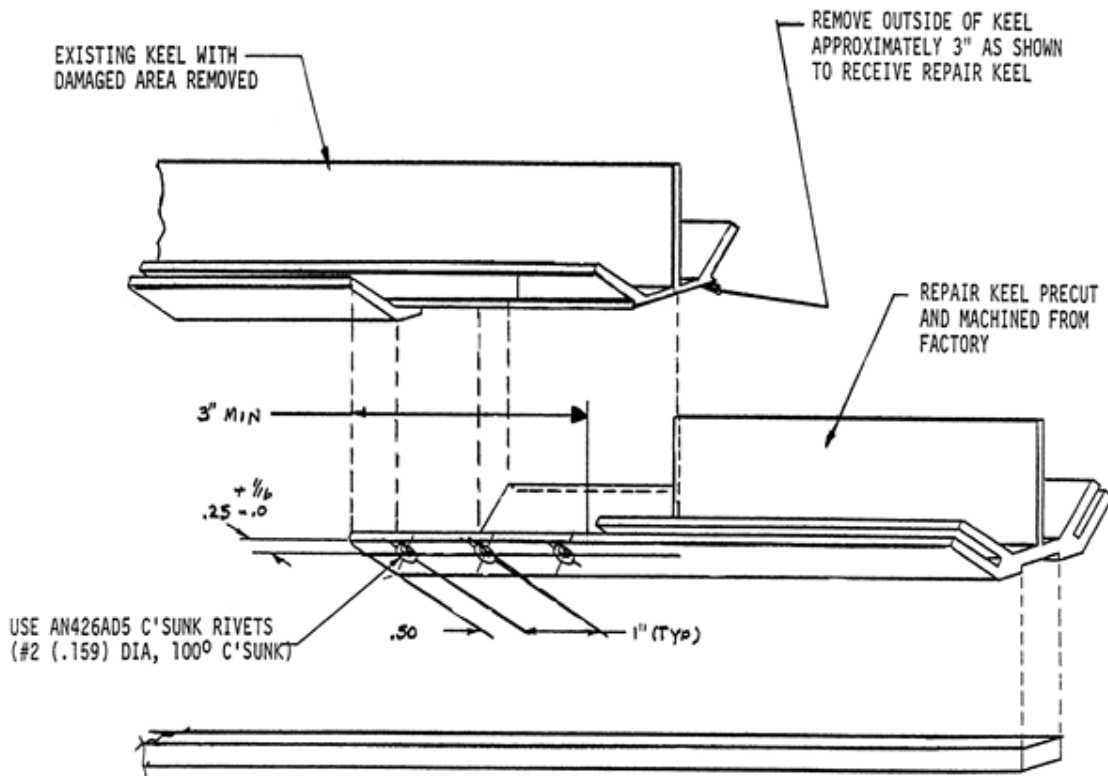

FIGURE 5.4-3: COMPLEX EXTRUSION SPLICE REPAIR
The 3730/3900, 4000, 6000, and 8000 float models utilize complex extrusions with channels on each flange into which the skins are inserted. Figure 5.4-3 depicts the general method of this splice repair. The replacement extrusions and wear strips can be purchased from the Wipaire Parts Department. Consult Table 5.4-1 below to locate applicable part numbers for your repair.
1. Remove the damaged area. On the remaining extrusion, cut out 3" of the outer layer of the extrusion as shown in Figure 5.4-3 so it can receive the repair piece.
3. Fasten the 2 pieces together in the overlapping area using AN426AD5 c'sunk rivets spaced per Figure 5.4-3.